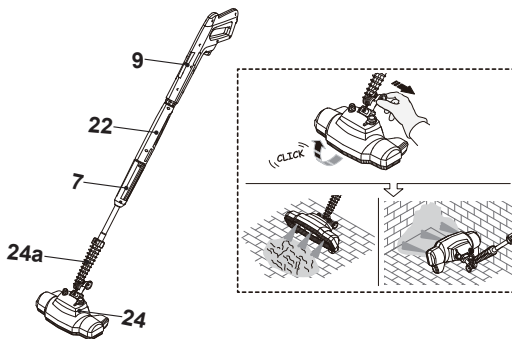

Fig. 13
3. Turn the short extension lance (22) clockwise to lock it in place (step 2). Ensure the arrow on the spray gun aligns with the arrow on the short extension lance.
4. Securely fit the short extension lance (22) by turning the sleeve (22b) clockwise (step 3).
5. Align and insert the tongues (7a) of the extension lance (7) into the grooves of the short extension lance (22) connection port (step 4).
6. Securely fit the extension lance (7) by turning it clockwise to lock it in place (step 5). Ensure the arrow on the short extension lance aligns with the arrow on the extension lance.
7. Attach the Aquasweeper (24) onto the extension lance (7) (Fig. 13).